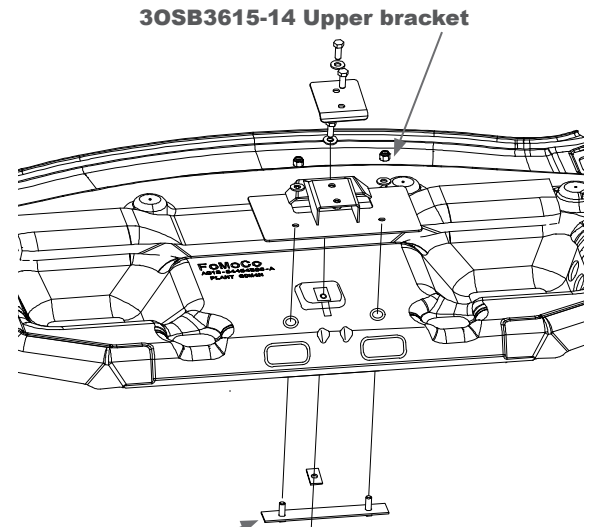

Fig. 3
- A. Remove the rear deck trim cover to expose the sheet metal underneath as shown in Figure 2. Install the OSB upper bracket (3OSB3615-14) and OSB lower bracket (3OSB3615-13) by using the threaded studs, (3X120) nuts, and (3X121) washers to sandwich the two brackets between the vehicle rear deck sheet metal. (See Fig. 3)